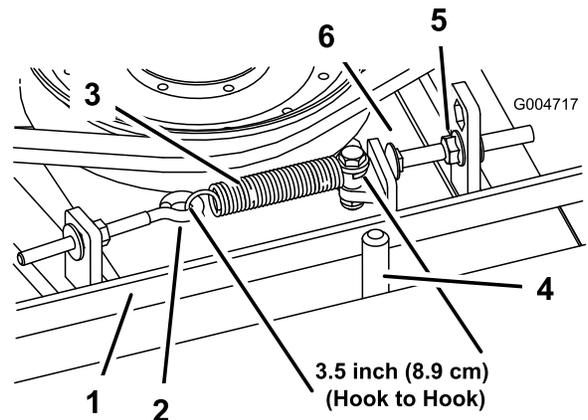

Figure 101
When properly tensioned, the inside measurement of the extension spring (hook to hook) should be approximately 8.3 to 9.5 cm (3-1/4 to 3-3/4 inches). Once the correct spring tension is attained, adjust the stop bolt (carriage bolt) until there is approximately 2 to 5 mm (0.065 to 0.185 inch) clearance between the head of the bolt and the idler arm (Figure 101).
Note: Ensure that the belt is positioned on the spring side of the belt guide (Figure 101).
2. Loosen the eye bolt allowing the removal of the extension spring (Figure 101).
from the belt to release the belt tension (Figure 101).
9. Connect the extension spring (Figure 101) to the eye bolt and tension the belt as follows: